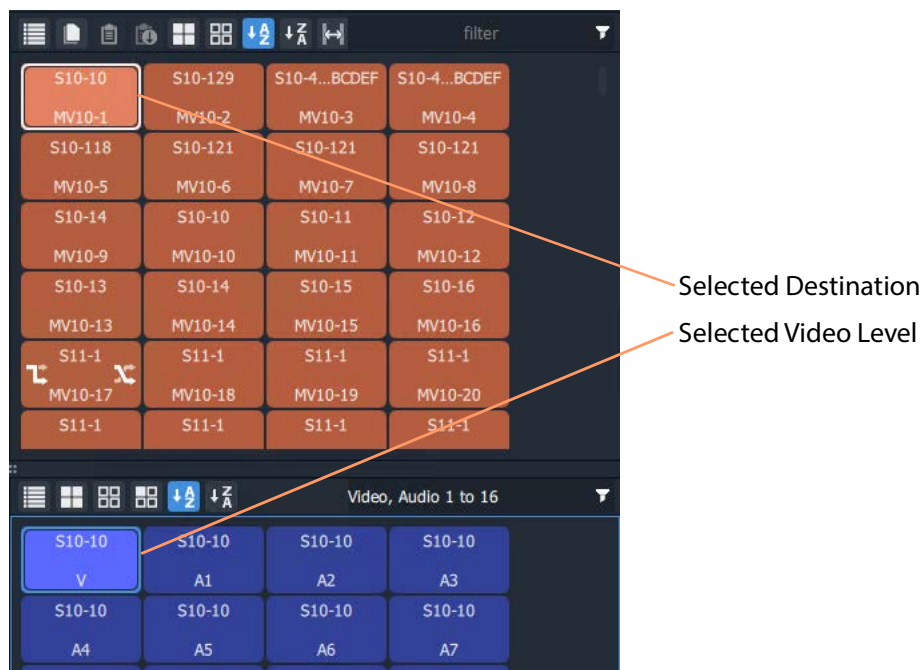

Fig. 12-34: Selected A Destination and a Level
- 2 Select a **Destination Level**. (See Figure 12-34.)